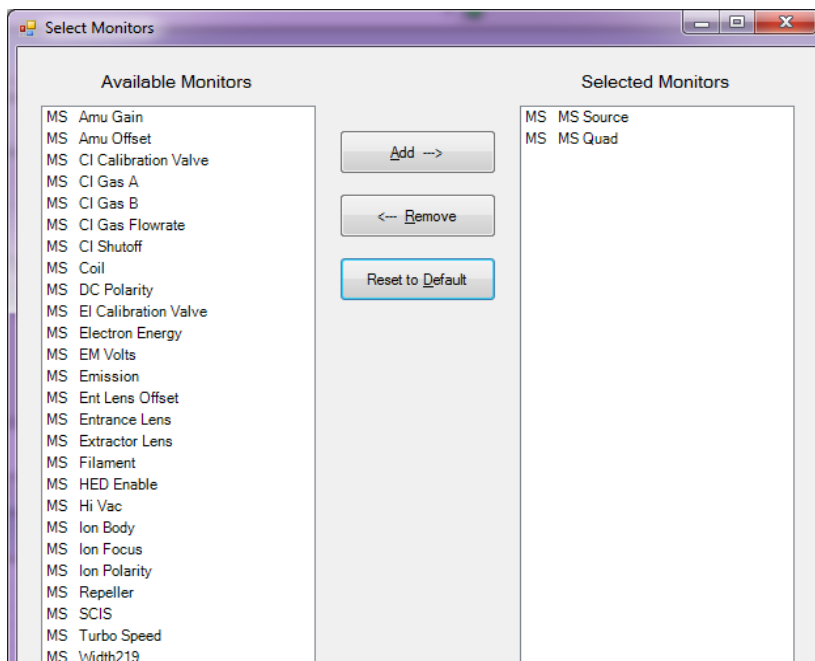

Figure 34 Select monitors dialog
- 1 In **Instrument Control** view, select **Edit Monitors** from the **Instrument** menu to display the **Select Monitors** dialog. (See Figure 34.)